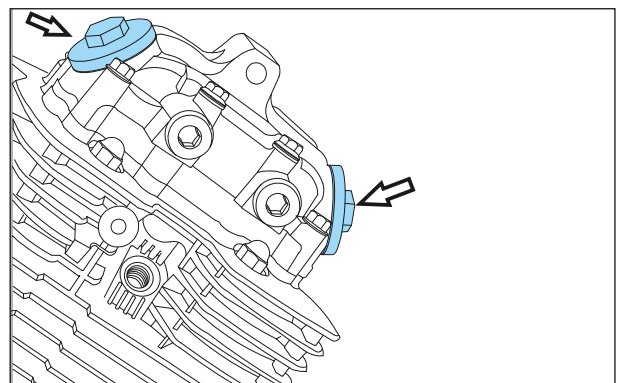

Fig. 3.48
- Remove both the cap inspection hole along with 'O' ring from the cover cylinder head. (Fig. 3.48)